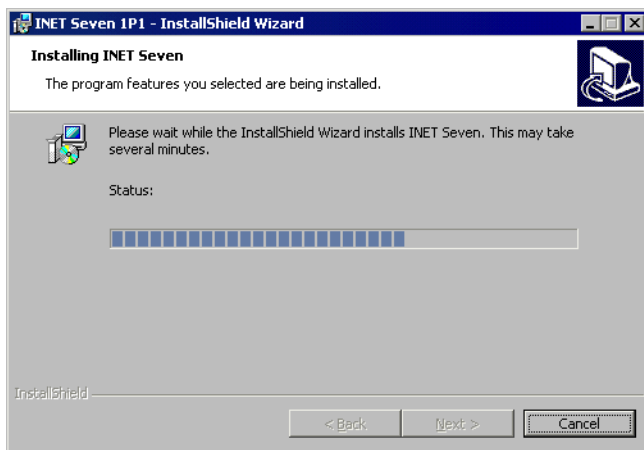

Figure 2-16. Installing TAC I/NET Seven
19. Setup begins installing TAC I/NET Seven. A progress bar shows the status of the installation process (see Figure 2-16).